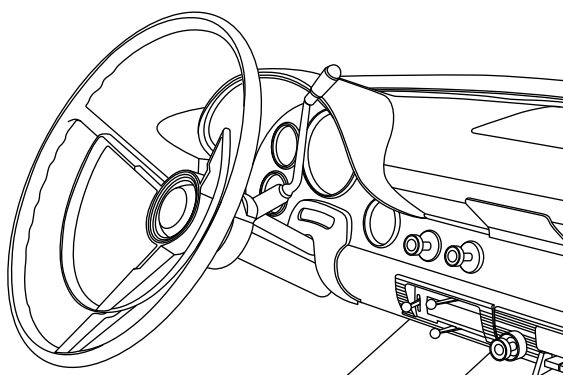

Figure 1
1. Remove (2) 1/4-20 OEM nuts attaching the control panel to the dash (retain). See Figure 1 and Photo 1, below.